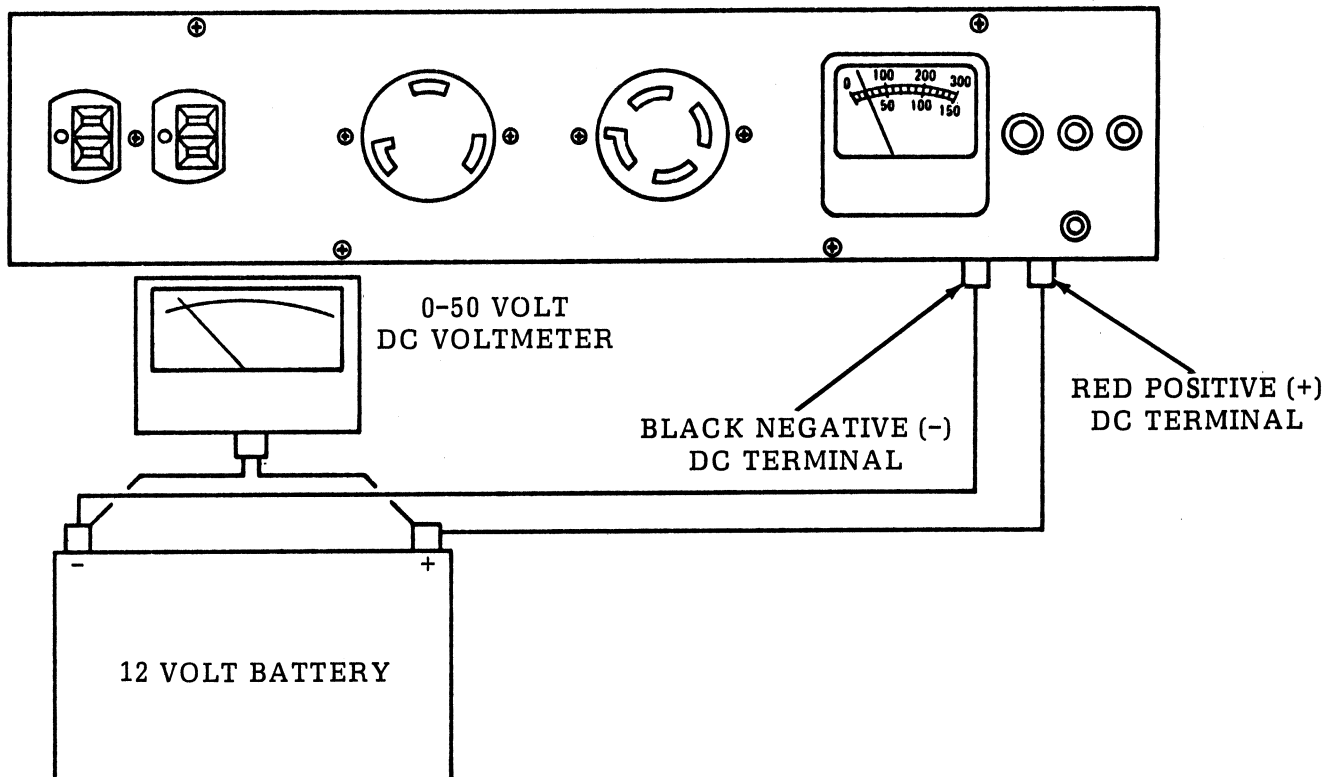

Figure 6-14. DC Charging Circuit Test
- a. The DC charging circuit must be connected to a load (in this case a 12-volt battery) in order to receive accurate voltage meter readings. Refer to Figure 6-14 to set up test equipment.
- b. Once engine is running at normal operating speed and temperature connect the test setup to the black and red terminals as shown in Figure 6-14. The meter should indicate between 13 and 15 volts.